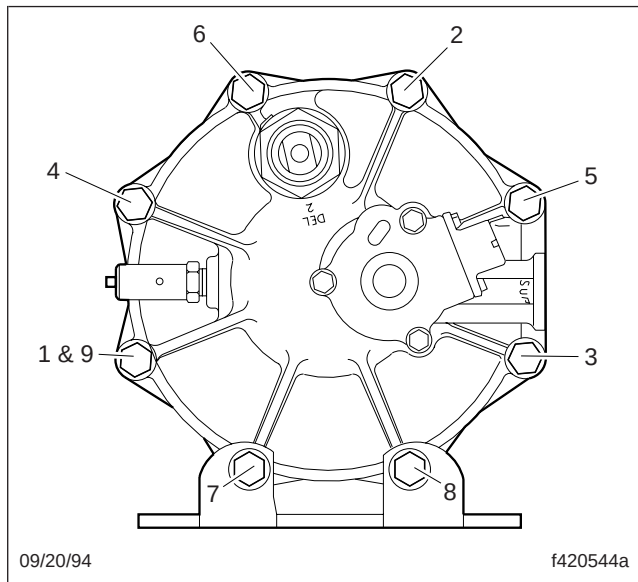

Fig. 2, End Cover to Housing Torque Pattern
16. Install the 6 capscrews, 12 washers, and 6 new Nylok nuts. Torque the capscrews in a star pattern (see **Fig. 2**) 270 to 385 lbf·in (3060 to 4340 N·cm)